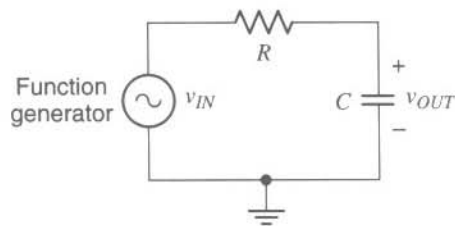
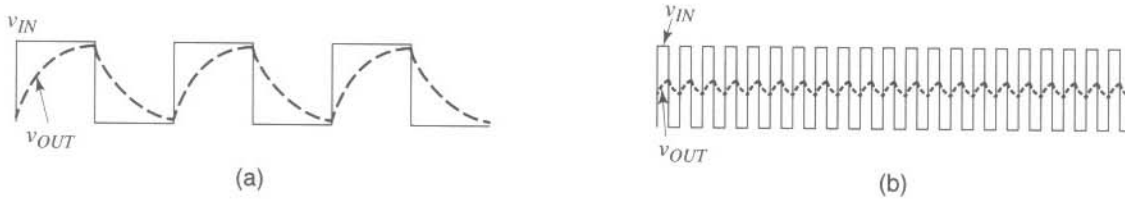
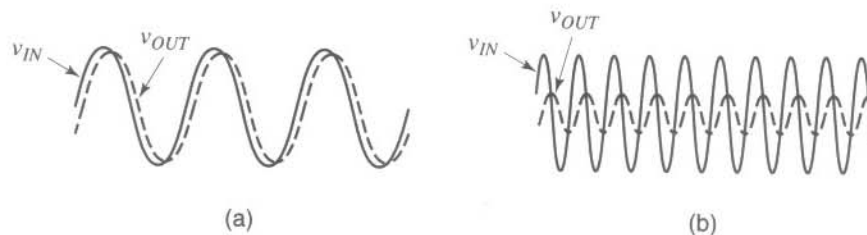
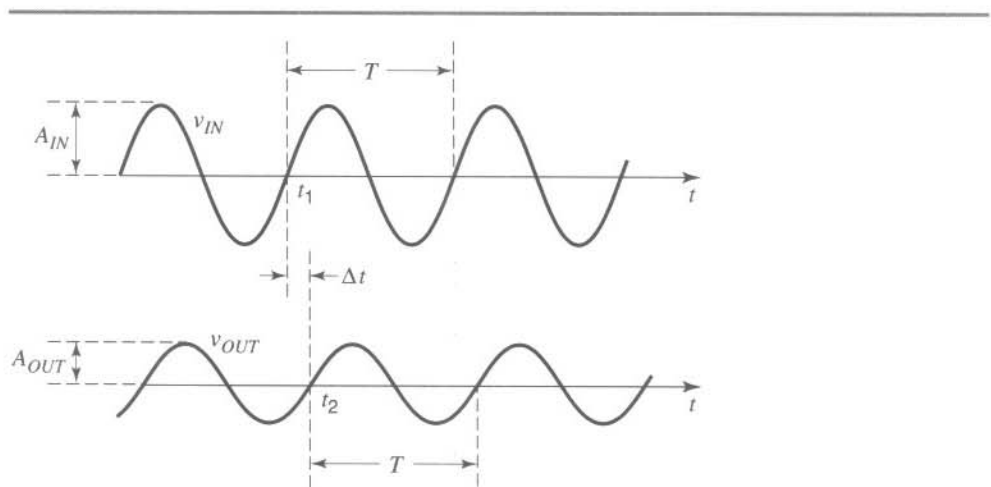

Fig. 1
Fig. 2
Fig. 3
Fig. 4
Consider the circuit of Fig. 1. In Experiment 6, you saw that if a square wave with a large period is applied to its input, the capacitor has the time to charge or discharge almost fully during each half interval, as shown in Fig. 2(a). The output then follows the input rather closely. If, however, the period of the input is made small, the output capacitor does not have time to charge or discharge fully, and the situation illustrated in Fig. 2(b) is observed. Now the output cannot follow the large excursions of the input, and its excursions become small.
These observations do not hold only for square wave inputs. Other shapes, such as triangle or sinusoidal, show qualitatively the same behavior. This is illustrated for a sinusoidal input in Fig. 3. As seen, low input frequencies allow the output to virtually follow the input, as seen in Fig. 3(a). We say that the low-frequency input signal “passes” to the output. On the other hand, when the input frequency is high, the output cannot follow the input, as shown in Fig. 3(b), and the output amplitude becomes small. The input signal, to a significant degree, is rejected, or “does not pass,” to the output. For these reasons, the circuit is said to be a *low-pass filter*. Many different circuits are low-pass filters, but we will concentrate on the simple one in Fig. 1 and study it in detail.
Because at very low frequencies the capacitor voltage is almost equal to the input voltage, as shown in Fig. 3(a), we say that “at very low frequencies, the capacitor in Fig. 1 acts almost as an open circuit.” Indeed, if the capacitor in Fig. 1 were replaced by an open circuit, the resistor current would be zero, and thus the voltage across the resistor would also be zero; the output voltage would then be equal to the input voltage. At high frequencies, on the other hand, the capacitor voltage is small, as shown in Fig. 3(b), and if the frequency is made very high the capacitor voltage is almost zero; because of this, we say that “at very high frequencies, the capacitor in Fig. 1 acts almost as a short circuit.” Indeed, if the capacitor in Fig. 1 were replaced by a short circuit, the output voltage would be zero.
Consider a linear circuit and assume that, at a given frequency, the input and output signals are as shown in Fig. 4. The amplitude of the input is  $A_{IN}$ , and that of the output is  $A_{OUT}$ . To indicate to what extent the input signal has passed to the output, we define the voltage gain magnitude,  $G$ :
The value of  $G$  depends on the circuit and the input frequency. For an amplifier, it can be much larger than 1. For the circuit of Fig. 1, it cannot exceed 1.
In Fig. 1, because the RC circuit shows some “inertia” (it takes time for the capacitor to charge or discharge before the output can rise or fall significantly), the various features of the sinusoidal output waveform (peaks, valleys, and zero crossings) appear to occur somewhat later than the corresponding features of the input waveform. We say that the output signal is *phase-shifted* with respect to the input signal. The phase difference between the output and the input can be determined with the help of Fig. 4. With the period  $T$  corresponding to 360 degrees, the phase difference between the two waveforms will be  $[(\Delta t)/T] \times 360$  degrees, where  $\Delta t = t_2 - t_1$ , as shown in the figure. This is the phase by which the top waveform leads (is ahead of) the bottom one or, identically, the phase by which the bottom waveform lags (is behind) the top one. It is common to quote instead the phase by which the bottom waveform *leads* the top one; this is the *negative* of the above quantity and will be denoted by  $\phi$ . Thus,
The values of  $G$  and  $\phi$  depend on how fast the signal is varying in relation to the circuit's "speed." Consider, for example, the circuit of Fig. 1. We have seen in Experiment 6 that a measure of the circuit's "slowness" is its time constant,  $\tau = RC$ . Thus, a measure of the circuit's speed is the inverse,  $1/\tau = 1/(RC)$ . It is common to consider how the circuit behaves when the input's angular frequency  $\omega$  (in rad/s) is equal to this measure. Since  $\omega = 2\pi f$ , where  $f$  is the frequency in Hz, we are interested in the behavior of the circuit at a critical frequency  $f_c$  for which  $2\pi f_c = 1/(RC)$ ; thus  $f_c$  is given by
1. Connect the circuit of Fig. 1, using  $R = 16 \text{ k}\Omega$  and  $C = 10 \text{ nF}$ . Set the input frequency at 1 kHz and its amplitude (peak value) at 2V. Monitor the input waveform on the scope's channel 1 and the output waveform on channel 2, with both channel inputs set at AC. Use  $\times 1$  probes. The sensitivity of the two channels (V/div) should be the same, and the variable sensitivity control for each should be in the calibrated position. The trigger source selector should be at channel 1, the trigger coupling at AC, and the trigger slope at positive. You should be able to obtain a display like that in Fig. 4. Carefully establish the 0 level for each waveform by using the ground setting for each scope input, and align this level with a main graticule horizontal line, using the vertical position control.
6. The phase shift between the output and the input,  $\phi$ , was defined under Background above. Measure this quantity, with the input frequency equal to the cutoff frequency  $f_c$  that you determined in step 3. To make this measurement easier, move one of the two waveforms vertically, so that its 0 level coincides with the 0 level of the other waveform (use the ground input mode on the scope to establish the 0 levels accurately). Then  $\Delta t$  can be easily estimated as the horizontal displacement between two zero crossings, as shown in Fig. 4.3 Is the phase shift at  $f_c$  approximately equal to the theoretically predicted value of  $-45$  degrees?